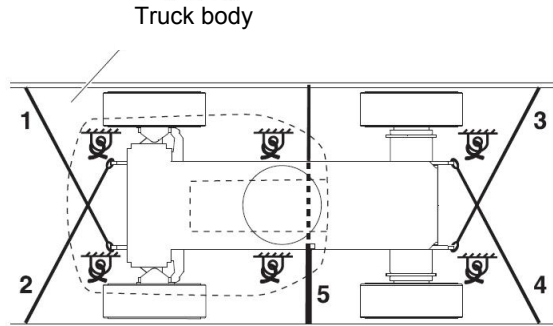

Figure 10-3 Schematic diagram of chassis fixing
- 5) Ensure that chains or belts have sufficient load strength, and use at least 5 chains. Adjust the rigging to prevent damage to chains, as shown in Figure 10-3.